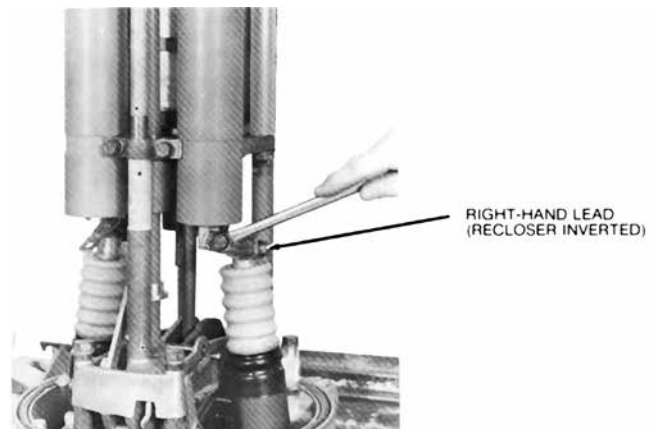

Figure 12. Removing lead from right-hand contact assembly
- A. Disconnect the lead from the vertical terminal on the right-hand contact assembly by removing the hex bolt, lockwasher, and flatwasher (Figure 12).